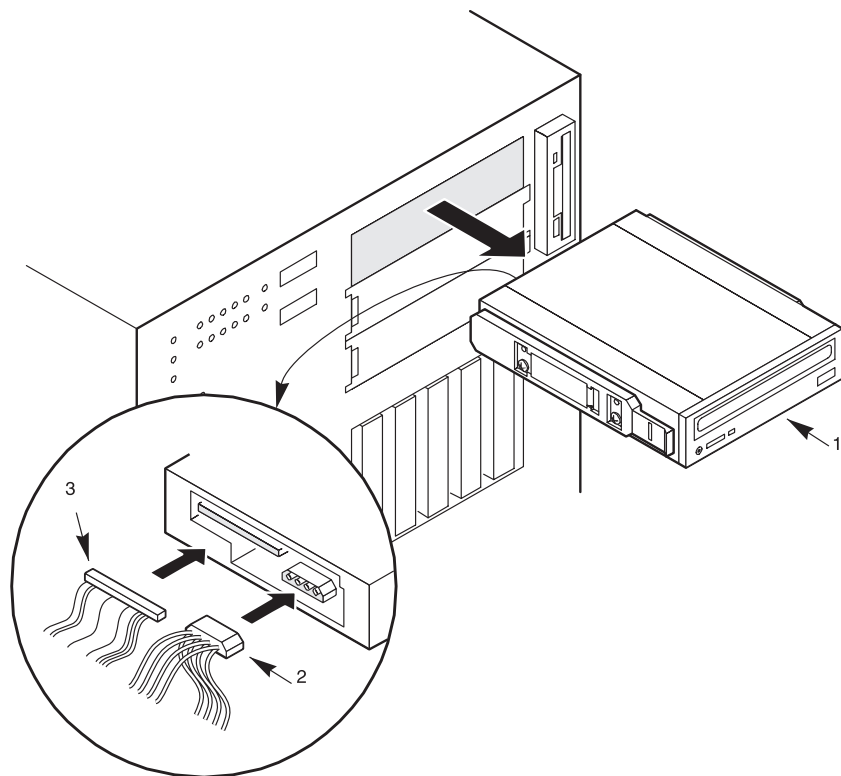

Figure 4-7. Removing the CD-ROM Drive (Bezel not shown for clarity)
See Figures 4-7, 4-8, 4-9 and 4-10.
10. Position the CD-ROM drive so that the plastic slide rails engage in the bay guide rails (Figure 4-7). Push the drive into the bay until the slide rails lock in place.